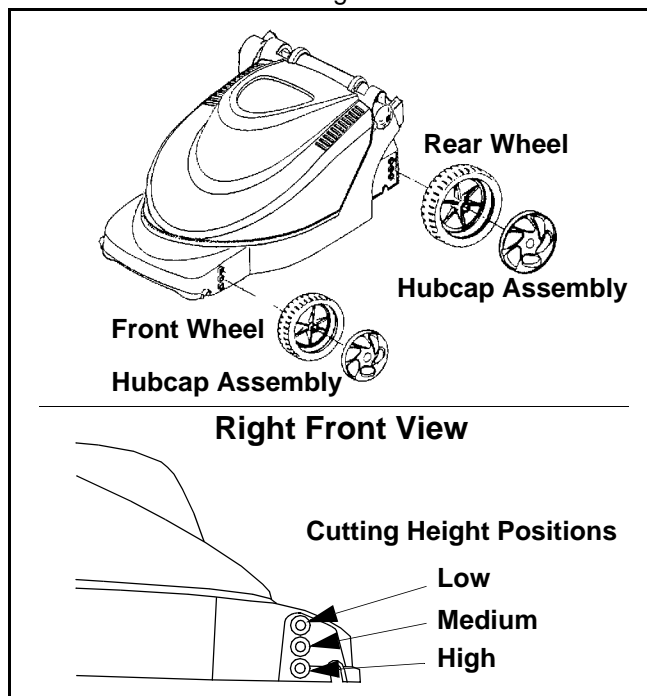

Figure 1
- Refer to Figure 1 and insert the hubcap assembly through the wheel and thread the complete assembly into the desired height adjustment position by hand.
- Repeat this step for all wheels, being certain that all four wheels are in the same height position for an even cut. Refer to Figure 1 for cutting height positions.
Also, be certain the smaller front wheels and the larger rear wheels are mounted correctly to the front and rear of the mower as shown in Figure 1.